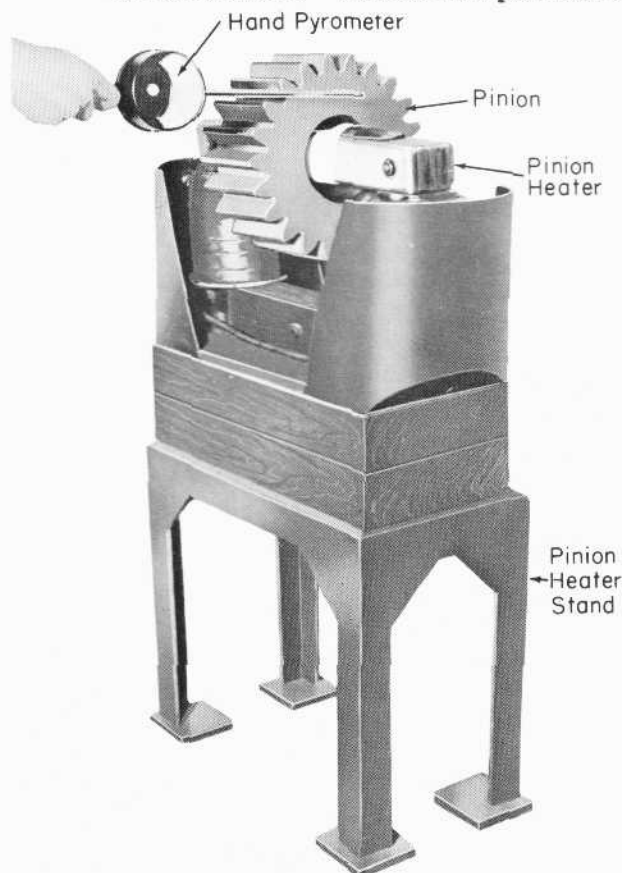

Fig. 21 - Pinion Heater
10. After cold mounting variations are within limits, the pinion may be heated with the induction heater as shown in Fig. 21 for final mounting. This is done as follows: